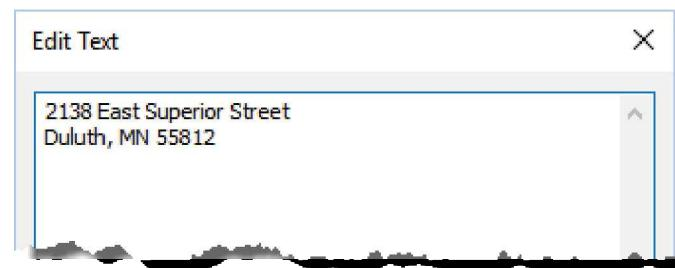

FIGURE 5-1.6 Adding Project Address (partial view)
11. Enter the project address shown in Figure 5-1.6.